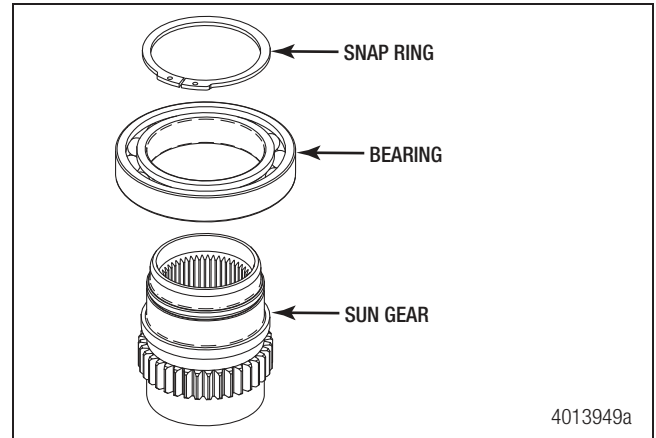

Figure 6.27
1. Install the bearing on the sun gear and secure it with the small snap ring. Figure 6.27.